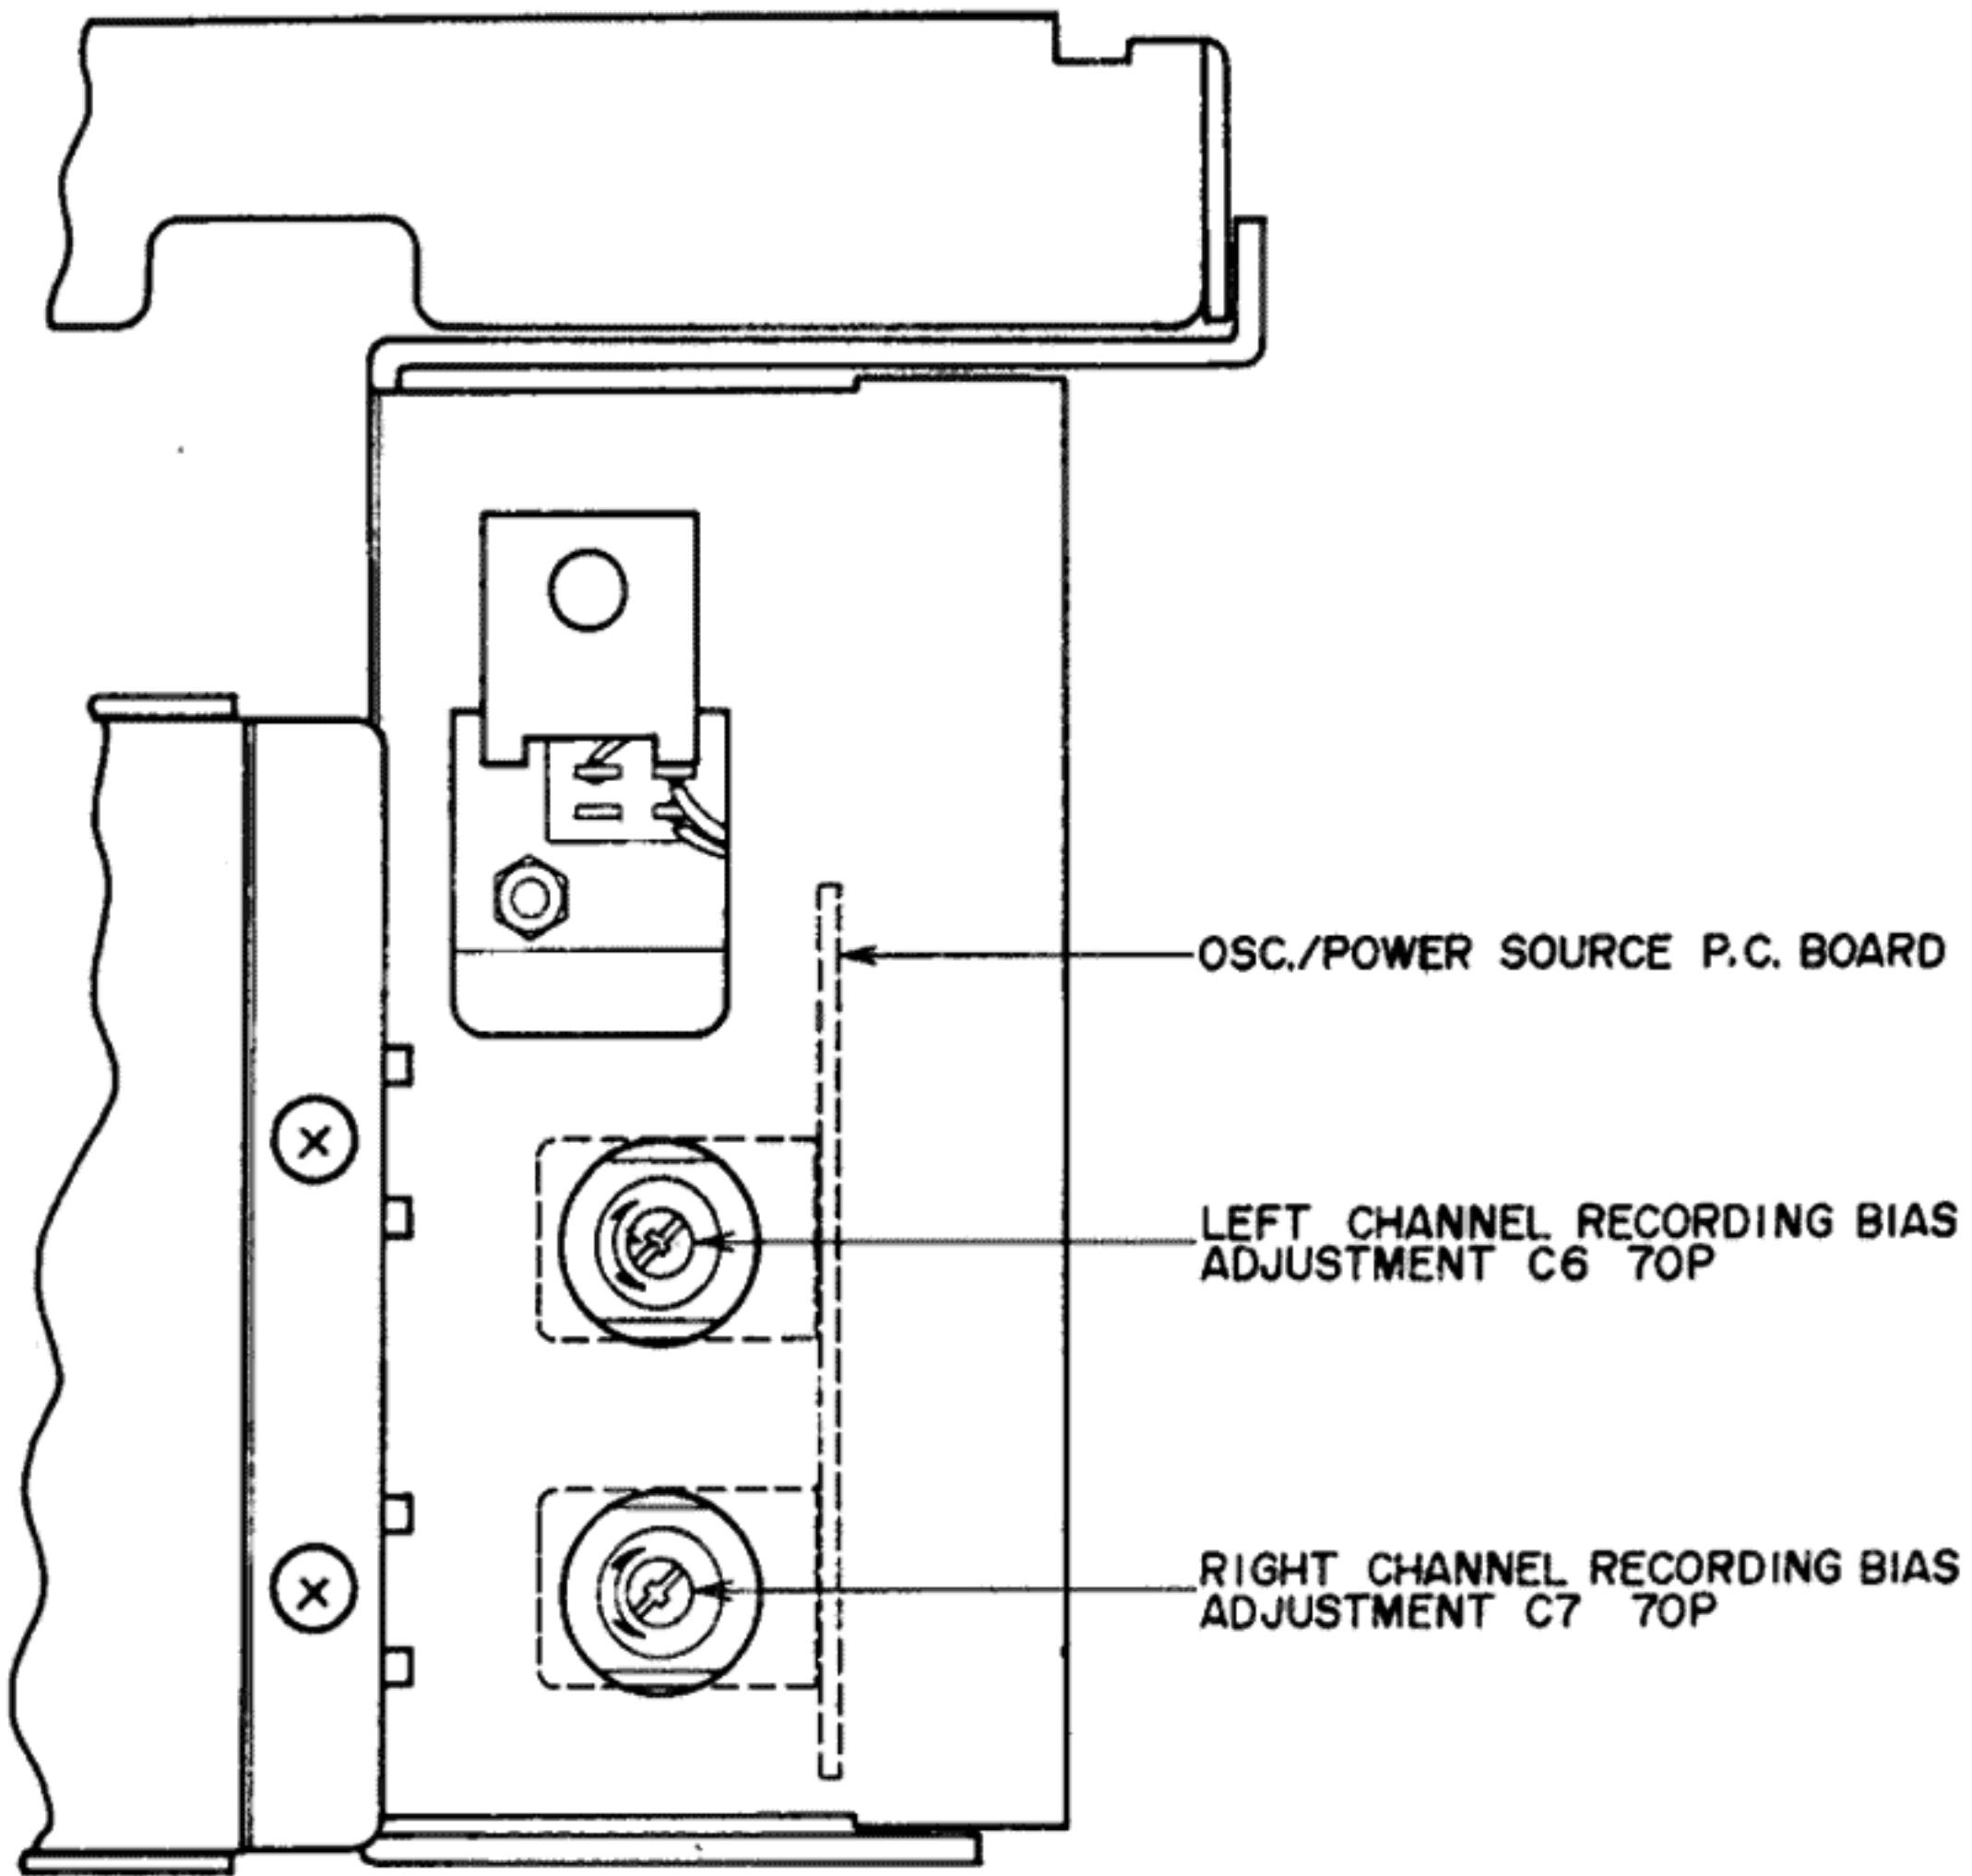

Fig. 21
8. FREQUENCY RESPONSE ADJUSTMENT (Recording Bias Adjustment) (See Fig. 21)
- 6) Switch the oscillation frequency of the Audio Frequency Oscillator to and from 2,000 and 20,000 Hz and adjust Osc./Power Supply P.C. Board trimmer condensers C6 70P (left channel) and C7 70P (right channel) shown in Fig. 21 so that the difference in line output level between 2,000 and 20,000 Hz is 0.5 to 1.5 dB. (2,000 Hz/-20 dBm, 20,000 Hz/-19.5 to -18.5 dBm).